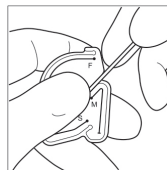
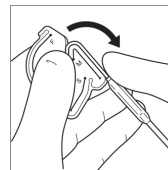

Figure 10: Start Maxillary Bend
Figure 11: Finish Maxillary Bend
– **Maxillary Bending with Bending Tool:** Before shaping the maxillary bend, the device should be close to straight as shown for a Sphenoid Bend. With the Bending Tool in one hand, position the ball tip into the ball holder in the bending tool (Figure 10). Place a finger at about the 2 cm mark on the suction tip and use this finger to form the Maxillary Bend (Figure 11).